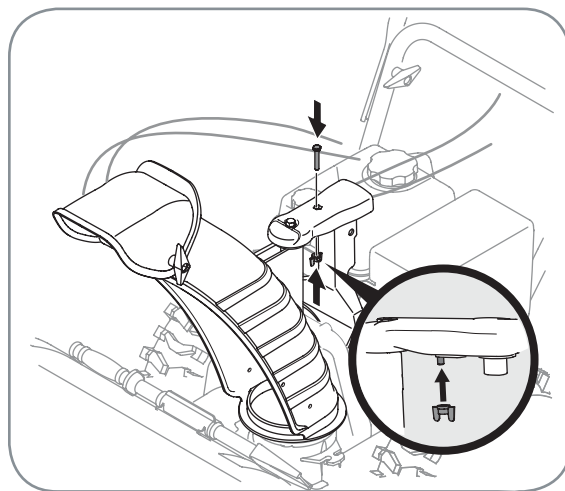

Figure 3-4
4. Finish securing chute control assembly to chute support bracket with wing nut and hex screw removed earlier. See Figure 3-4.